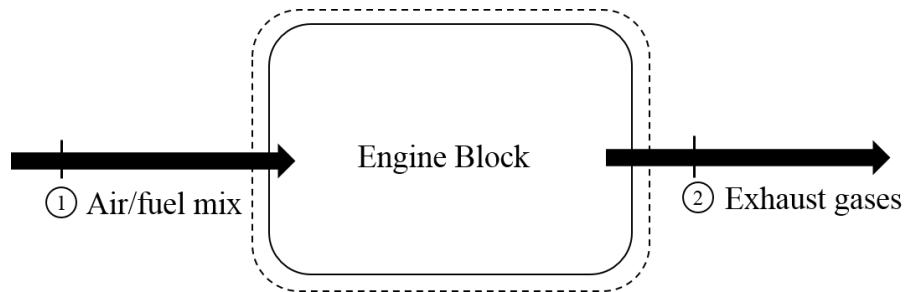

Figure 2: Incomplete control volume schematic of the engine block
- 2- Starting from Figure 2, draw a simple control volume schematic for the engine. Indicate any other fluid streams flowing through the engine, and show any energy transfers by heat or work.